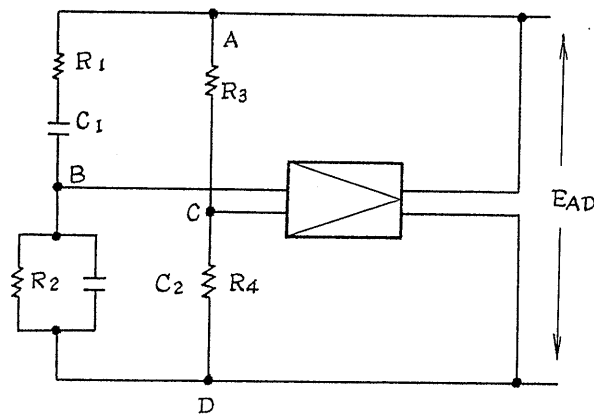

Fig. 1
Circuits with R and C as frequency determining elements are most commonly used for low frequency oscillators. Among these RC oscillators, Wien bridge oscillation circuits are most typical. Wien bridge circuits have advantages over other types of oscillator circuits in that the oscillation frequency is easily variable, the output waveform includes less distortions, and the oscillation is stable. The 417A Oscillator also employs a Wien bridge oscillation circuit, the construction of which is illustrated in Fig. 1.
Referring to Fig. 1,  $E_{BC}$  and  $E_{AD}$  are mutually in phase when the following condition is satisfied.
In practice, the requirement of equation (4) can hardly be satisfied with a circuitry as shown in Fig. 1. If this requirement is satisfied from the beginning, no oscillation can start. The conditions for oscillation are determined by equations (1) and (3), and are irrelative to emplitude. For an actual oscillator, such a provision must be incorporated that the condition of equation (3) is initially satisfied and, after oscillation has built up to a stable level, the condition of equation (4) is satisfied. To meet this requirement, the resistance of R3 or R4 must automatically vary in response to the oscillation amplitude. The most commonly practiced method is to use a thermistor as for R3. A provision which employs a thermistor satisfies the condition of equation (4) with a simple circuitry and covers a wider variation of circuit constants. However, the thermistor circuit is disadvantageous in that it is affected by ambient temperature variation and a longer period is required for oscillation stabilization if oscillation with a low waveform distortion is required.